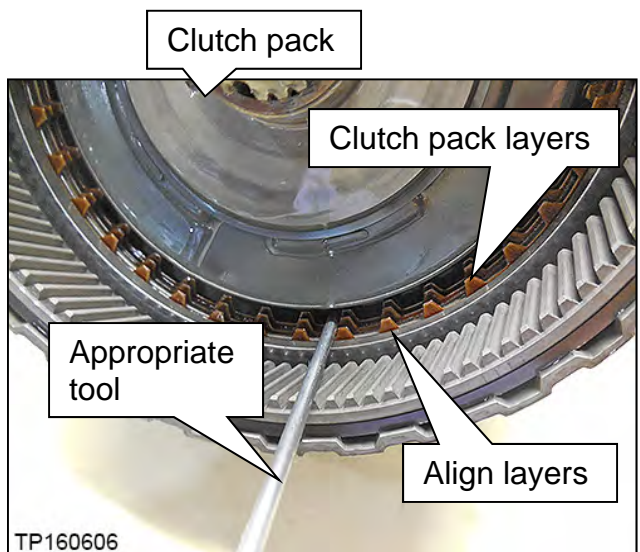

Figure 68
- The bottom of the clutch pack is shown in Figure 68.